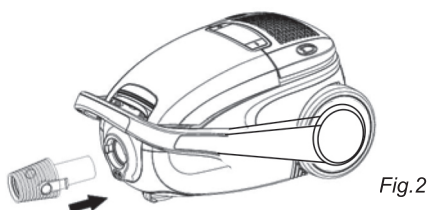

Fig.2
1. Insert the end of the suction hose (Fig. 2) in the intake opening into the intake opening of the vacuum cleaner, until it locks with an audible click.